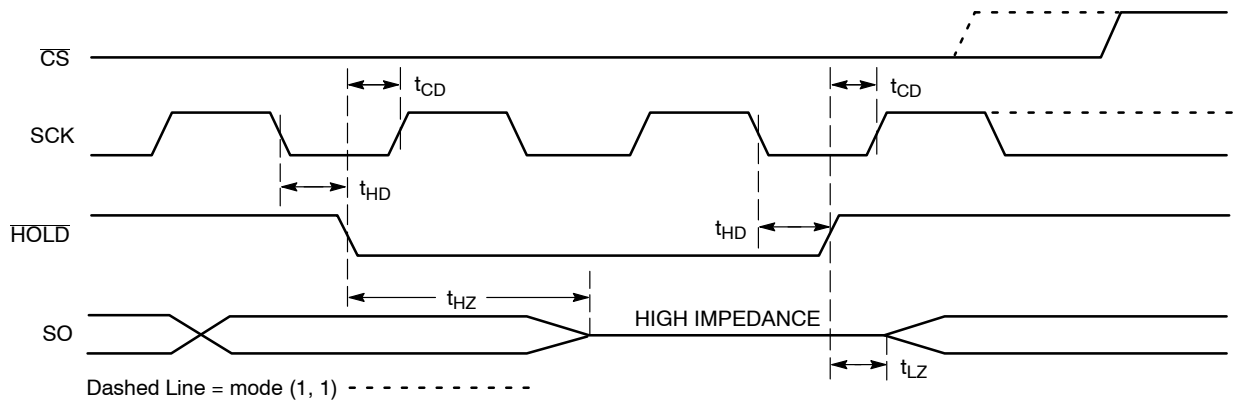

Figure 11. $\overline{\text{HOLD}}$ Timing
The $\overline{\text{HOLD}}$ input can be used to pause communication between host and NV25640. To pause, $\overline{\text{HOLD}}$ must be taken low while SCK is low (Figure 11). During the hold condition the device must remain selected ($\overline{\text{CS}}$ low). During the pause, the data output pin (SO) is tri-stated (high impedance) and SI transitions are ignored. To resume communication, $\overline{\text{HOLD}}$ must be taken high while SCK is low.